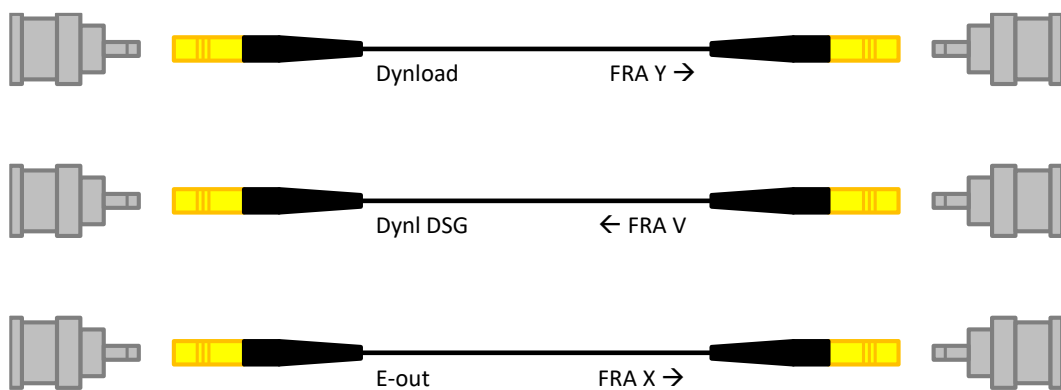

Figure 3 – Configuration of the SMB cables used in combination with the FRA2 module
- For the FRA2 module, the cables must be fitted with SMB to BNC adaptors on both ends (see Figure 3).